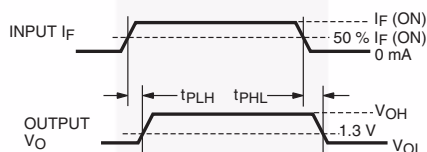

Fig. 1. Test Circuit and Waveforms for  $t_{PLH}$ ,  $t_{PHL}$ ,  $t_r$  and  $t_f$
| $T_{PLH}$ | Propagation Delay Time to Output High Level           | With Peaking Capacitor (2)(4) (Fig. 1)                                                                              |                                                                                                         | 120             | 300  | ns               |
| $T_{PHL}$ | Propagation Delay Time to Output Low Level            | With Peaking Capacitor (3)(4) (Fig. 1)                                                                              |                                                                                                         | 180             | 300  | ns               |
| $t_r$     | Output Rise Time (10% to 90%)                         | (5) (Fig. 1)                                                                                                        |                                                                                                         | 80              |      | ns               |
| $t_f$     | Output Fall Time (90% to 10%)                         | (6) (Fig. 1)                                                                                                        |                                                                                                         | 25              |      | ns               |